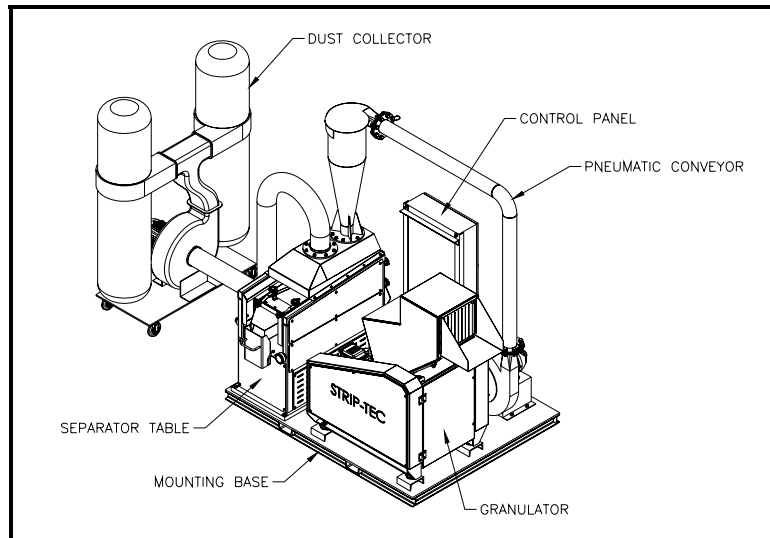

Figure 1 – Cable Granulator and Separator Major Sub-Systems
The Strip-Tec Cable Granulator and Separator system can be divided into six (6) major sub-systems, as illustrated in Figure 1.